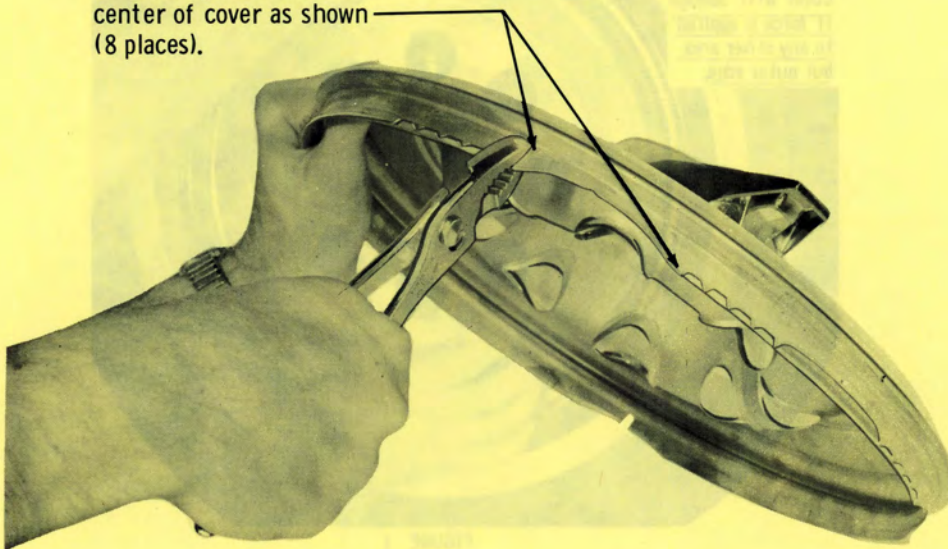

FIGURE 3
as shown in Figure 3 at the eight (8)